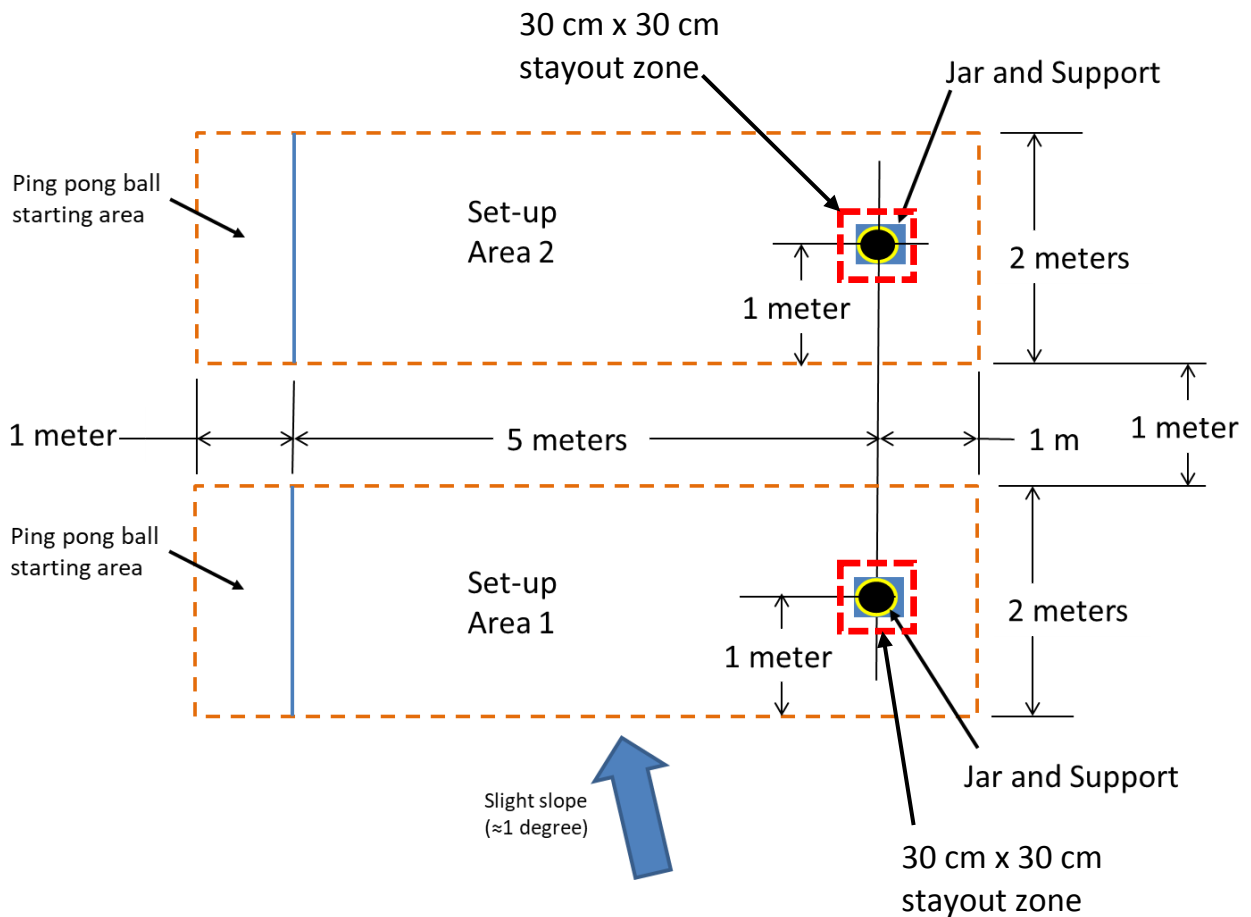

Figure 1. Contest Area – top view
- g. Can hold or touch the ping pong ball such that the ping pong ball starts each run behind the 5-meter line as indicated in Figure 1 shown in Rule 9.
9) The contest site is in front of the steps leading to Building 180. The site will contain two areas for setting up and operating the device. The size of each area is 2 meters by 7 meters. Each team will be randomly assigned to either set-up area. The ground is concrete with a rough finish and has a slight slope (approximately 1 degree across the width as shown in Figure 1). See Figure 1 for a description of the contest area.